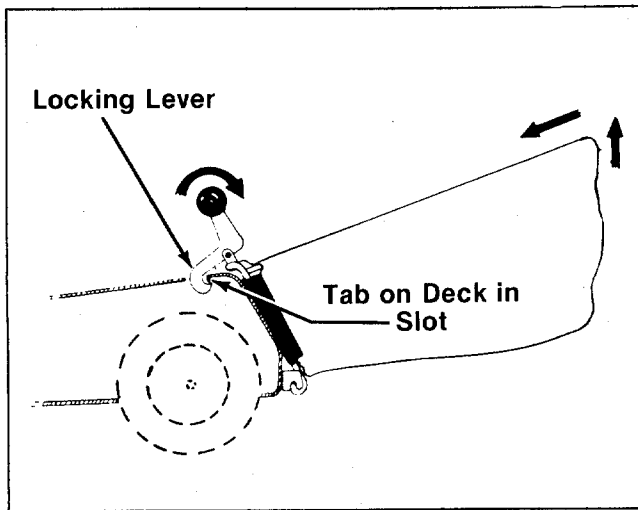

FIGURE 13.
- ← 2. Lift off grass catcher. See figure 13.